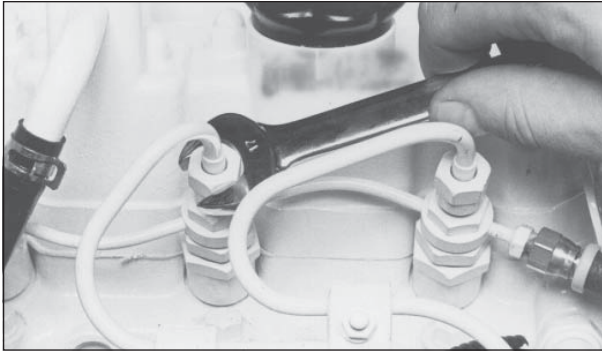

Figure 7: Remove delivery line flare nuts.
- b. Relieve high pressure in the fuel lines by loosening the delivery line flare nuts at each injector (Figure 7).